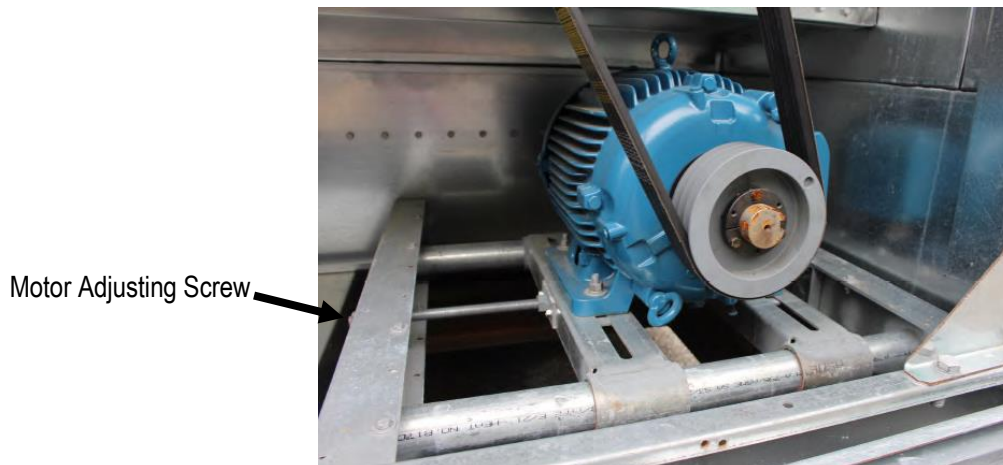

Figure 7. Motor Adjusting Screw
- Using a wrench or impact gun, turn the motor base adjusting screw (**Figure 7**) clockwise to tension the belt or counterclockwise to relieve belt tension. During adjustment of the belt tension, rotate the drives several times by hand to evenly distribute the tension throughout the belt.
Coat the motor base slides and adjusting screws (refer to **Figure 7**) prior to start-up, every three months while in operation, and following shutdown. Use good quality, corrosion inhibiting grease such as one of those recommended for lubricating the fan shaft bearings in **Table 4**.